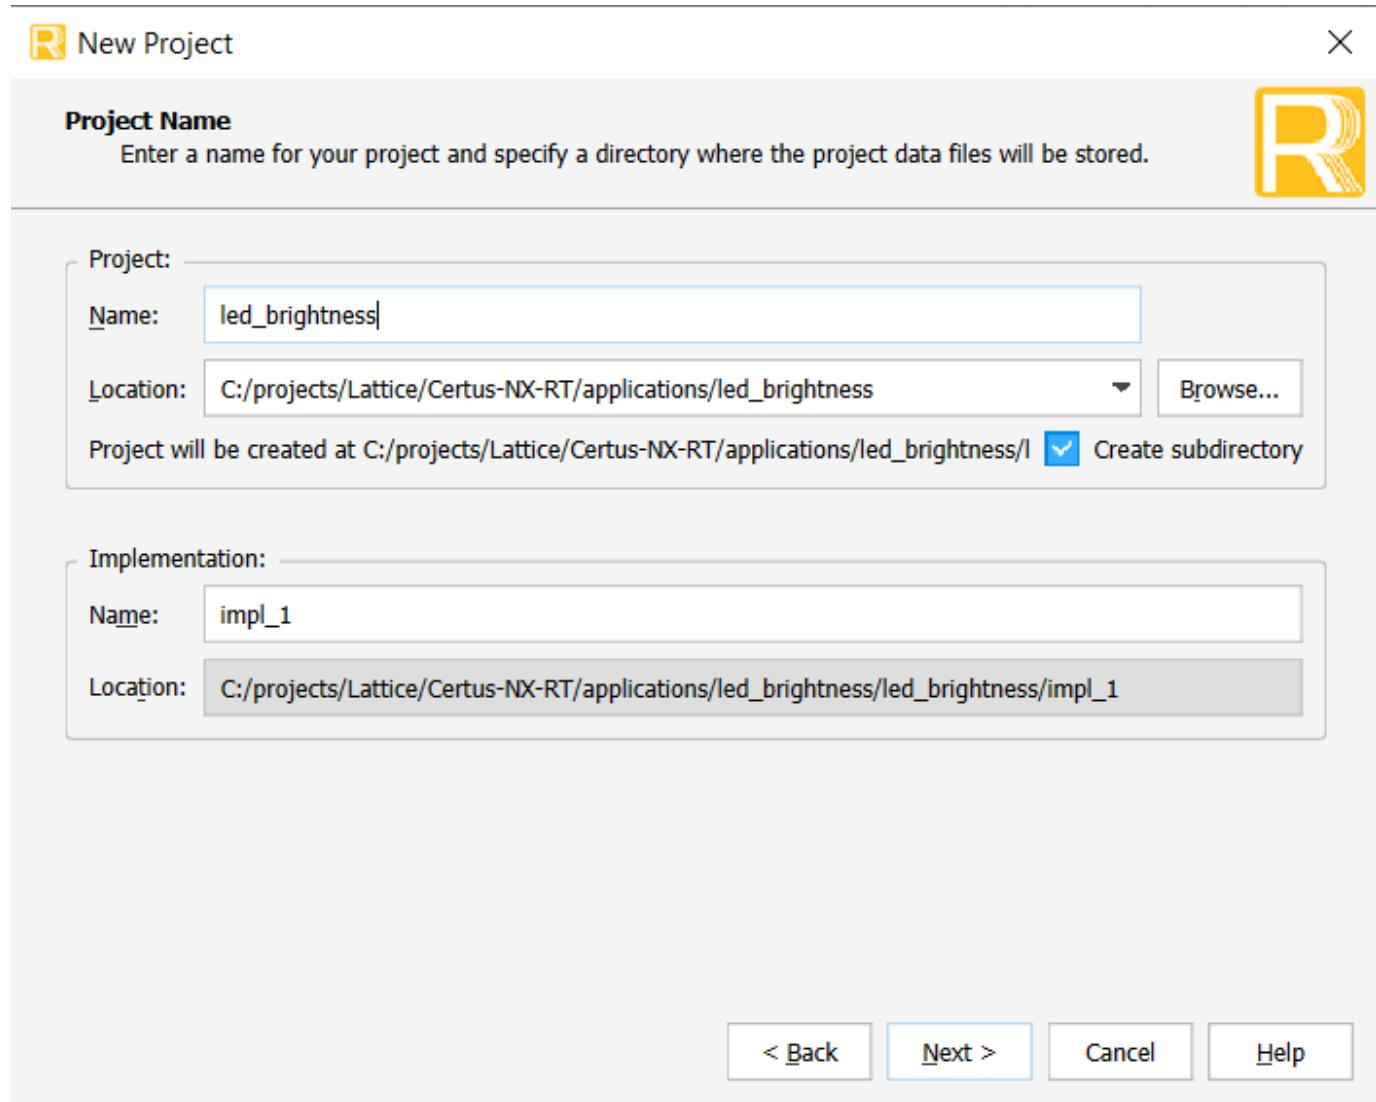

Figure 2: Creating a Radiant Design Project
4. Specify the project name as **led_brightness**, navigate to the **location** of your choice and click **Next**, see **Figure 2**.